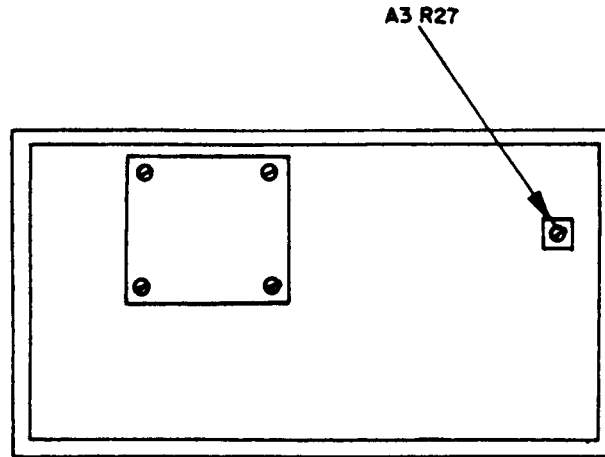

Figure 1. Test instrument left-side view - adjustment location.
- (1) Remove RF assembly cover and adjust A3R27 (figure 1) until lock annunciator stops flashing (R).